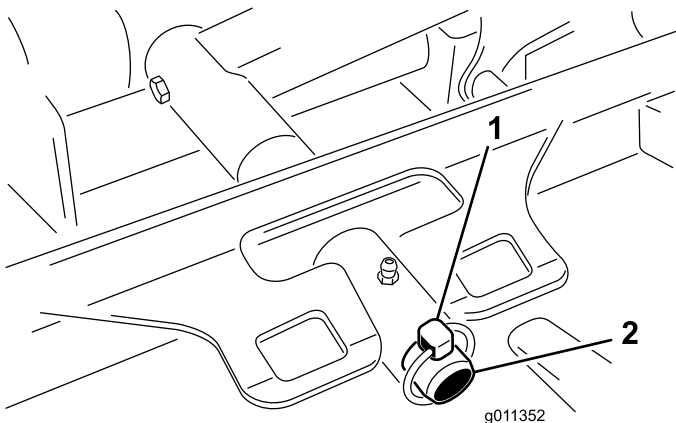

Figure 85
3. Remove the lynch pin or retaining nut (GM 4700 only) securing the deck carrier frame to the lift-arm pivot pin (Figure 85).
3. Slide the deck carrier frame onto the lift-arm pivot pin. Secure with lynch pin or retaining nut (GM 4700 only) (Figure 85).